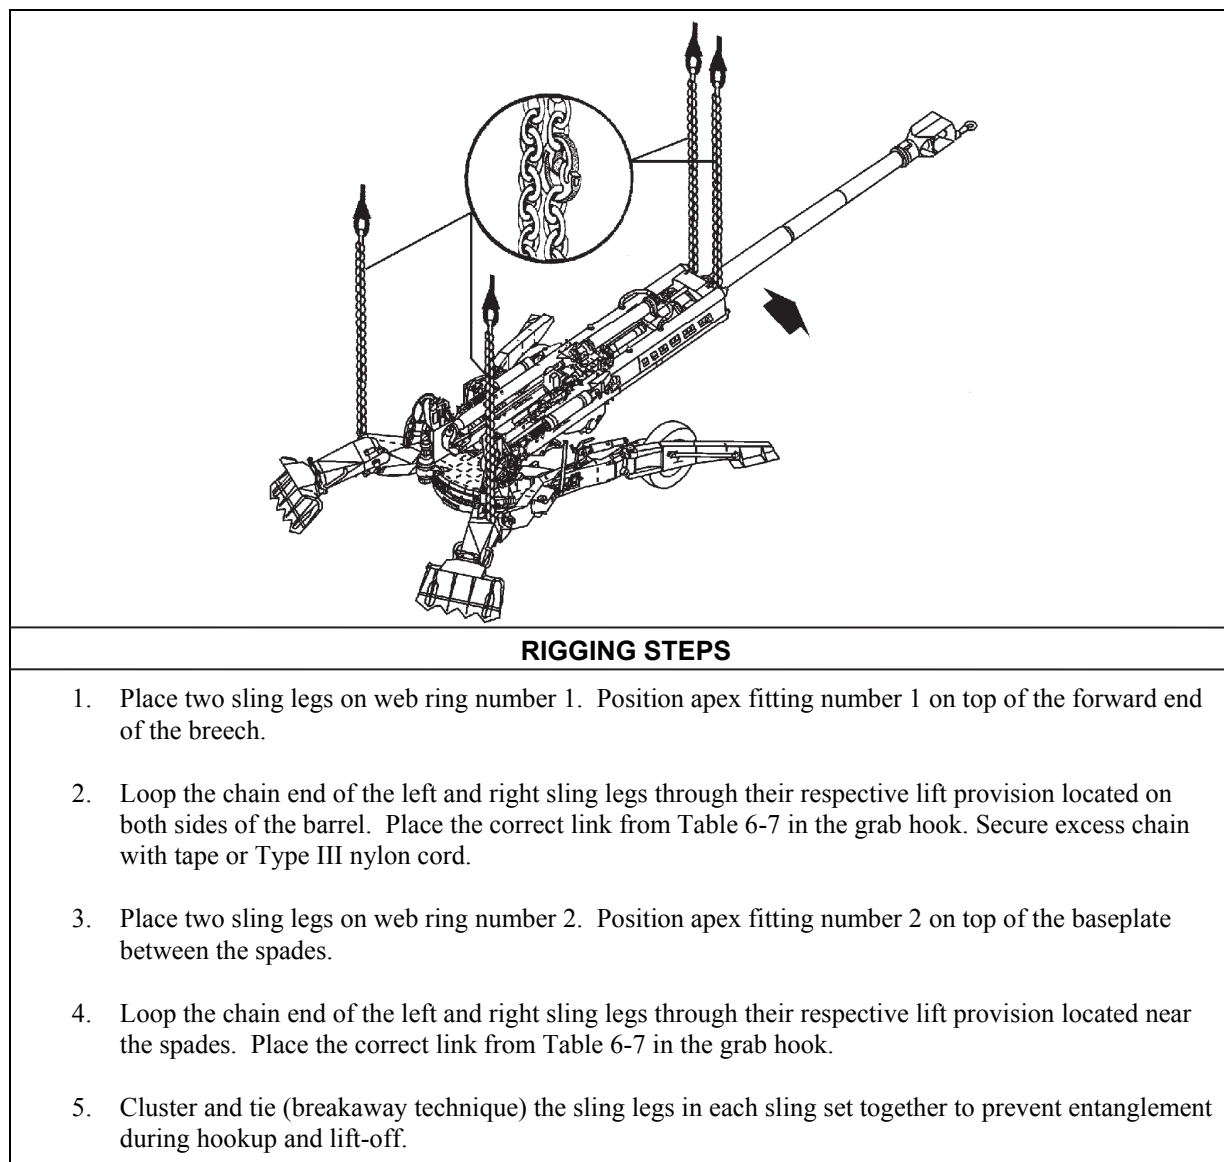

Figure 6-7. M777/M777A1/M777A2, 155-mm Lightweight Howitzer
- **Rigging.** Rig the load according to the steps in Figure 6-7.